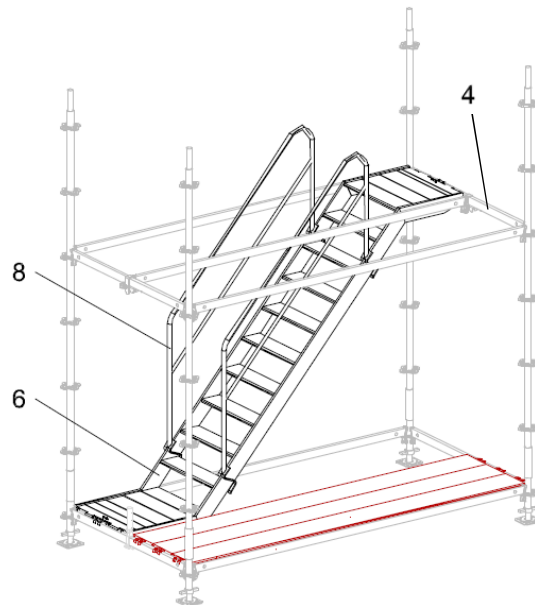

Fig.A2-4
Mount Stair Guardrails UAG (8) in the position shown (Fig A2-4.b)